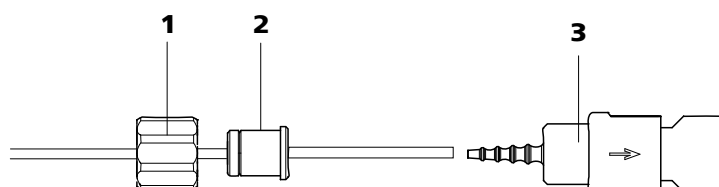

Figure 25 Install pump tubing connection with filter
- **Case A:** a 6.2744.180 pump tubing connection **with filter** (see Figure 25, page 47) or